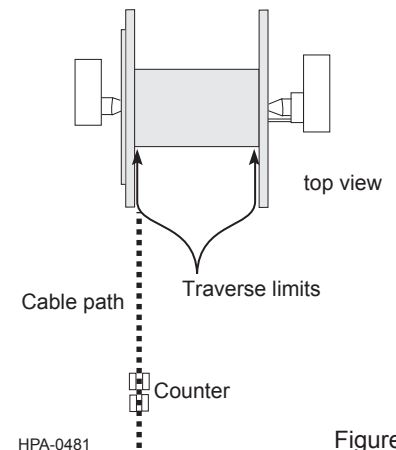

Figure 4
4.7 Proper traverse travel is critical for the cable to be snug and straight on the take-up reel. Set the traverse travel distance by adjusting left and right traverse limits so that the traverse travel direction will reverse at the proper locations to allow for the applicable reel width (Figure 4).